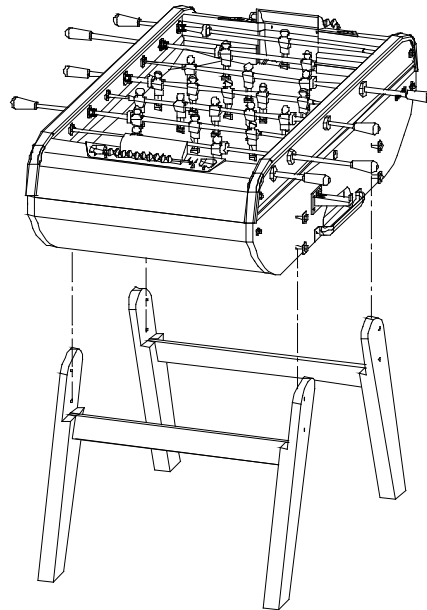

FIG 2-1
2. Gently slide one pair of the table leg supports into position as shown in Fig 2-1.